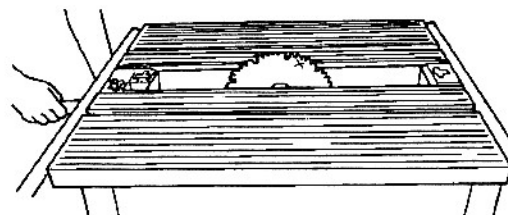

Fig. B-28
26. Unlock the carriage and move the saw blade to the middle of the table, as seen in Fig. B-28. Lock the carriage. Rotate the saw blade so the "X" mark is located toward the back side of the blade.